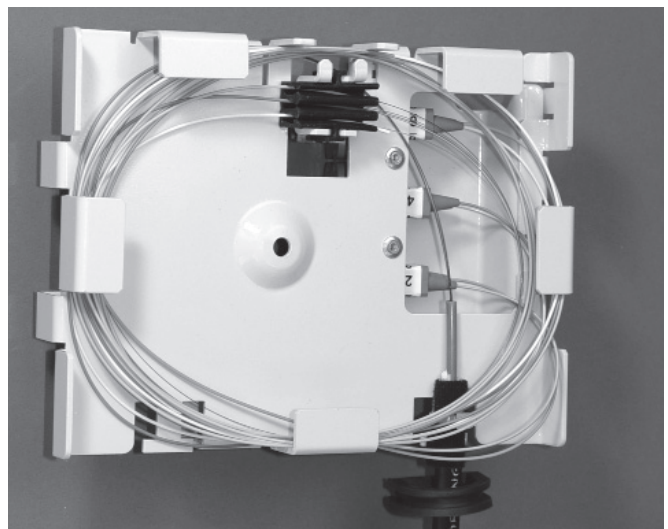

Figure 5
11. Splice the fibers using 42mm short splice protection sleeves provided. Splices can be double-stacked for a total capacity of six. When finished splicing, ensure all fibers are stored under the fiber tabs of the tray (Figure 5). Replace clear protective cover over splices.